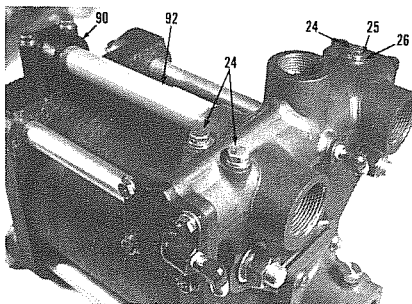

Figure 7-26, Installing air tube and air shuttle assembly.
7.5.1 Install two petrolatum coated o-rings (7) in housing (90). Apply petrolatum to threads of two screws (91) and with two each flat washers (26) and lock washers (25), bolt housing to oil end plate (58). See Figure 7-25. Coat outside ends of air tube (92) with petrolatum and insert one end in port in housing (90). See Figure 7-26.
7.5.2 Install air shuttle assembly to air end plate and to air tube (92). Bolt with three each flat washers (26), lock washers (25), and screws (24). Before installing air shuttle assembly, be sure o-rings are installed in ports (reference paragraph 7.1.7). See Figure 7-26.